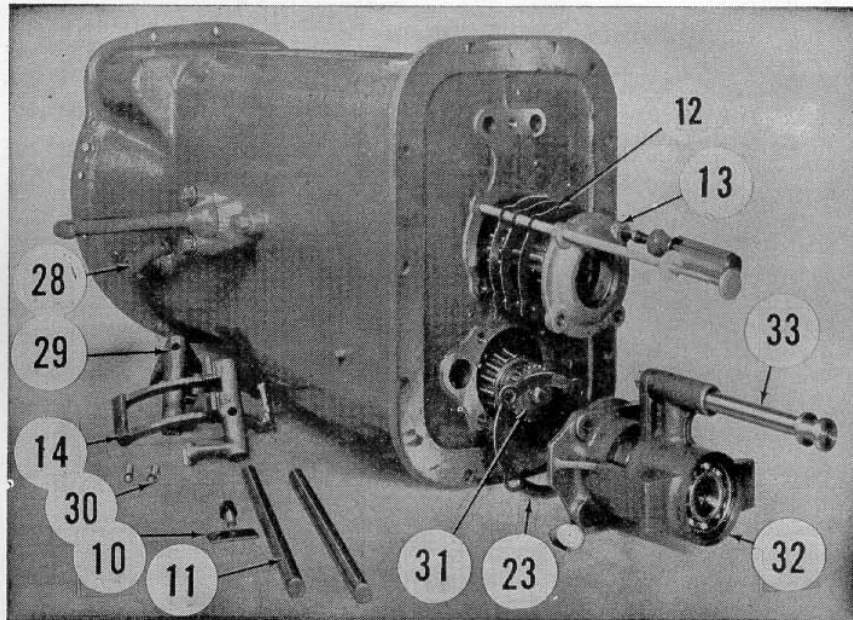

Fig. FO56—Rear end view of 2N-9N transmission showing bearing support and pto shifter detached from end wall.
**75. COUNTERSHAFT.** This shaft (20) may be removed after mainshaft is out and before reverse idler gear is removed. Remove power take-off shifter and bearing support as shown in Fig. FO56 and remove shifter clutch hub from end of countershaft. Remove countershaft and gear assembly. Renew worn or damaged parts and reassemble as shown. Reinstall countershaft and adjust bearings by means of shims (23—Fig. FO56) to obtain zero end play or 15-30 inch pounds torque to rotate shaft. Countershaft may be turned for checking bearings by inserting pto shaft in shifter unit and rotating the unit.